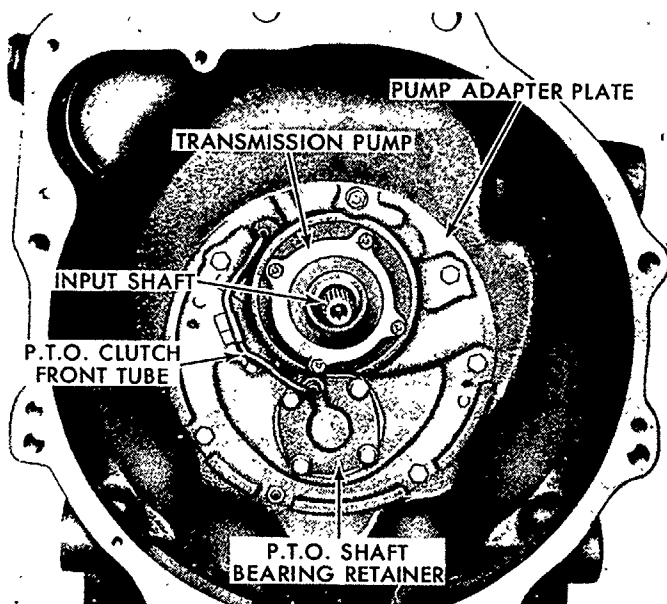

Figure 84
1. Remove the pump, Figure 84, and gasket, by removing the four mounting bolts. Tap the pump with a soft-faced hammer and slide it from the input shaft.
3. Remove the P.T.O. shaft bearing retainer by removing the four bolts, Figure 84. During removal, note the O-ring and the shim pack which is used to adjust P.T.O. shaft preload.